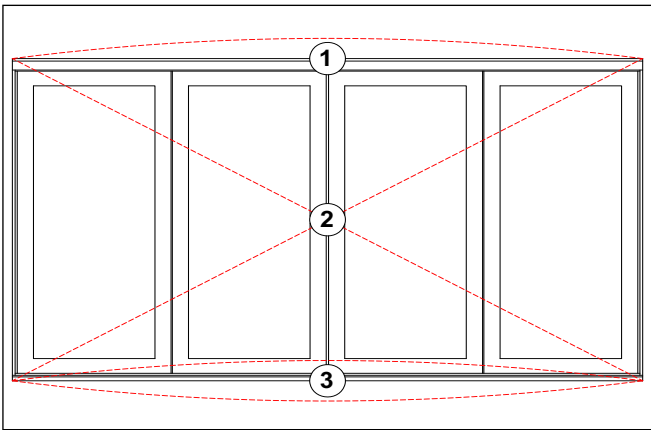

Figure 12
- 3. **Frame Tolerance:** the sill must be within +/- 1/16" (3) flat. The head jamb must be flat or within +1/8" (1) of flat (not bowed down). When installed, the frame must be within +/- 3/16" (2) of square. See Figure 12.